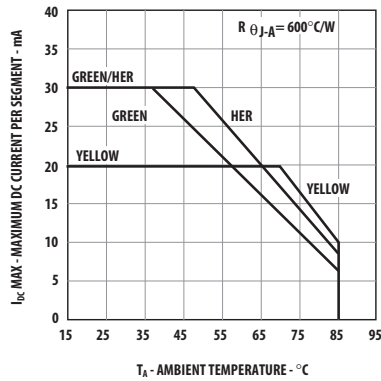

Figure 9. Maximum Allowable DC Current vs. Ambient Temperature. T_JMAX = 100°C.
6. Derate maximum DC current for HER above $T_A = 48^\circ\text{C}$ at 0.58 mA/°C, Yellow above $T_A = 70^\circ\text{C}$ at 0.66 mA/°C, and Green above $T_A = 37^\circ\text{C}$ at 0.48 mA/°C. See Figure 9.